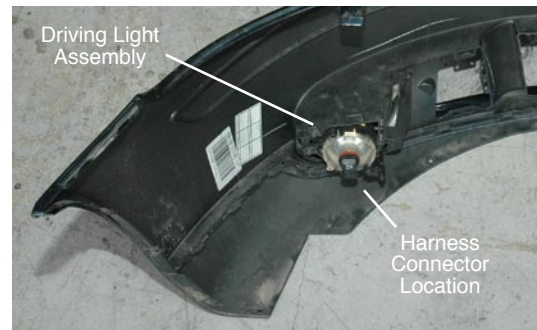

Figure 2.5
- Disconnect driving light harnesses, one per side, and remove front fascia (see Fig. 2.5, S40 model shown).